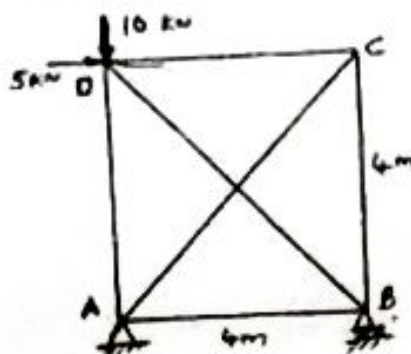

Fig Q8
- 8 Analyse the pin jointed plane shown in Fig Q8 by flexibility matrix method to compute axial forces in the members. Assume $\frac{L}{AE}$ for each member is 0.025 mm/kN .